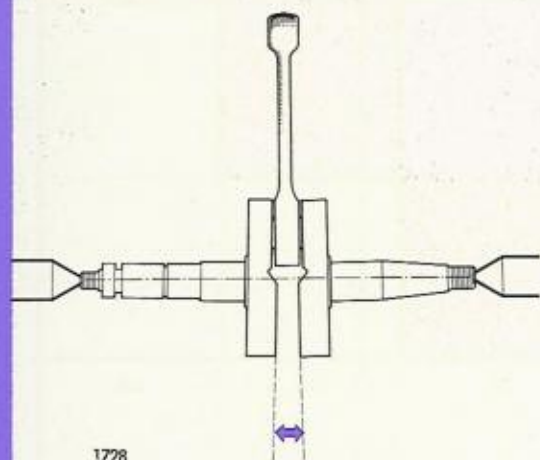
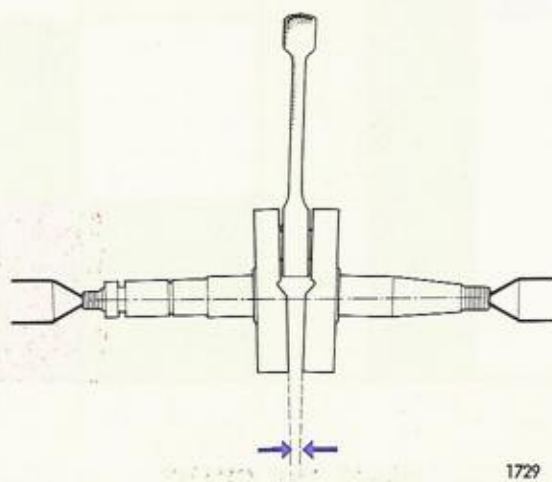

Fig. 20
Fig. 21
2. Crankshaft lobes not parallel (fig. 20 and 21)
Again mark the position giving the maximum reading. Straighten by hitting with a copper hammer (fig. 23) if the lobes are bent outwards (fig. 20) or by inserting a tapered bar (fig. 24) if they are bent inwards (fig. 21).